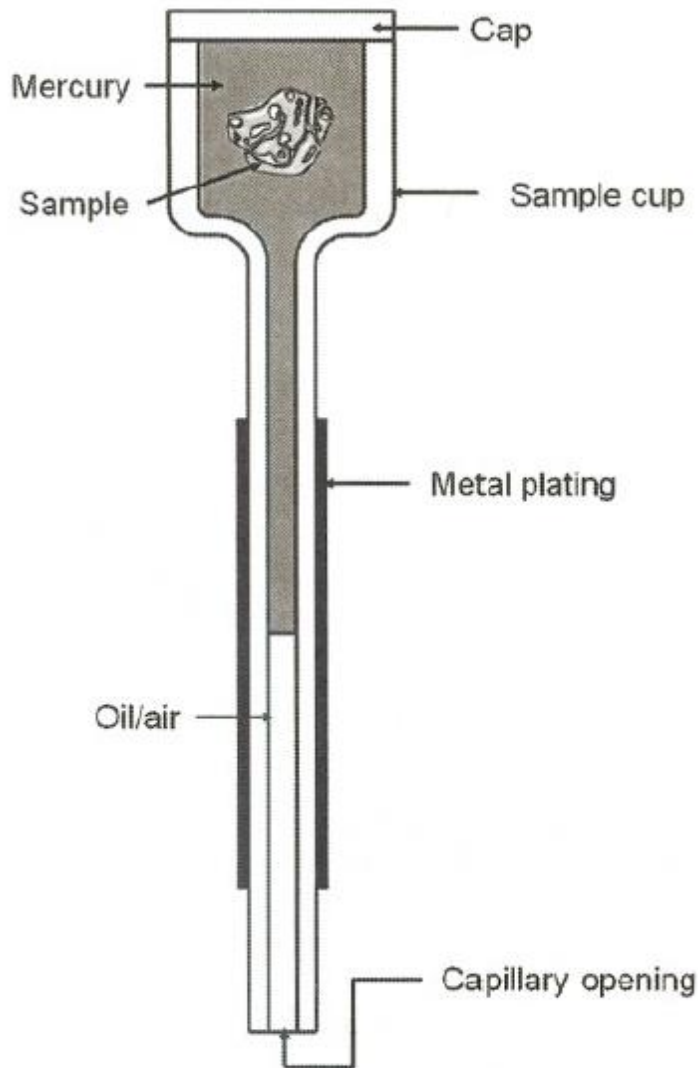

Figure 1
**Figure 1.** Wire-grid polarizer. [Reproduced from Thierry Buffeteau and Michel Pérolet, 'Linear Dichroism in Infrared Spectroscopy', in "Handbook of Vibrational Spectroscopy", eds J.M. Chalmers and P.R. Griffiths, John Wiley & Sons, Chichester, 693–710, Vol. 1 (2002).]
**Figure 1.** Chemical structures of conjugated polymers: (a) *trans*-polyacetylene; (b) *cis*-polyacetylene; (c) poly(*p*-phenylene); (d) polythiophenes; (e) regioregular poly(3-alkylthiophene); (f) polypyrrole; (g) poly(*p*-phenylenevinylene); (h) poly(2-methoxy-5-(2'-ethylhexyloxy)-*p*-phenylenevinylene) (MEH-PPV); (i) polydiacetylene. [Reproduced from Yukio Furukawa, 'Vibrational Spectroscopy of Conducting Polymers', in "Handbook of Vibrational Spectroscopy", eds J.M. Chalmers and P.R. Griffiths, John Wiley & Sons, Chichester, 2483–2495, Vol. 4 (2002).]